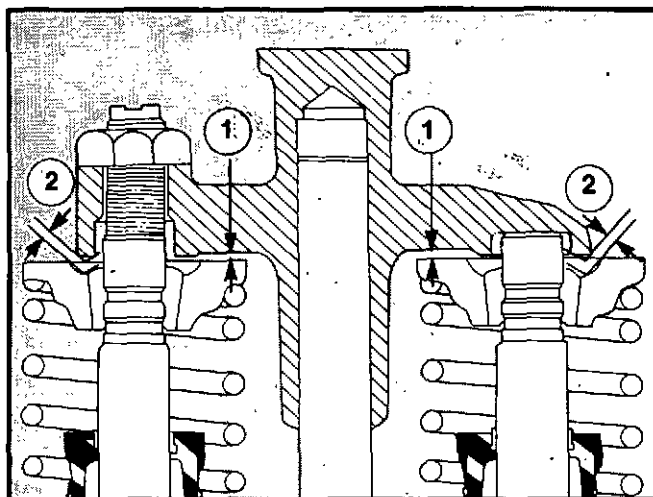

Fig. 14-67. Check These Areas For Clearance.
6. Check the clearance between the crosshead and valve spring retainer, (1 and 2) Fig. 14-67. Use a wire gauge to check the clearance. The clearance must be a minimum of 0.025 inch [0.64 mm].